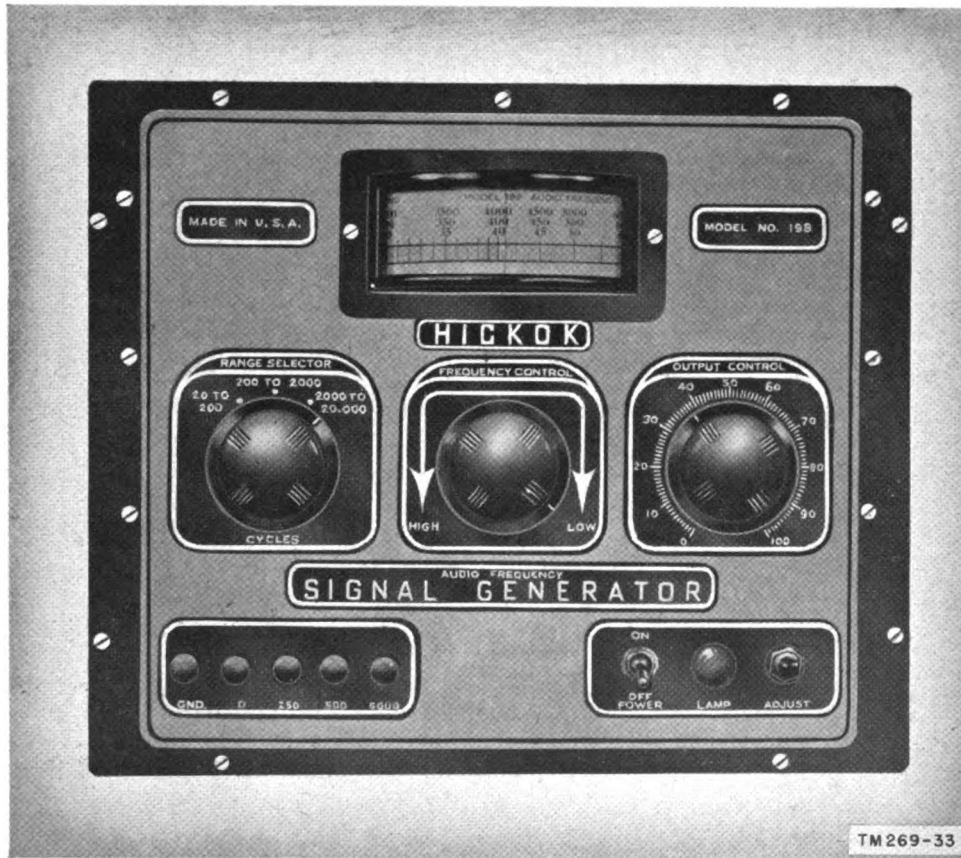

Figure 34. Oscillator I-151-B.
- (1) *Oscillator I-151-B (fig. 34)*. Oscillator I-151-B is an a-f oscillator with a frequency range of 20 to 20,000 cps. The instrument has a power output of 100 milliwatts (into a 1,000-ohm load) and output impedances of 10, 250, 500, and 5,000 ohms.